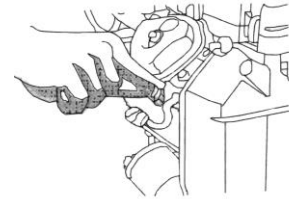

Fig. 25
- 5) When the spark plug is in place, revolve it by spark plug wrench, and impact gasket (Fig. 25) .